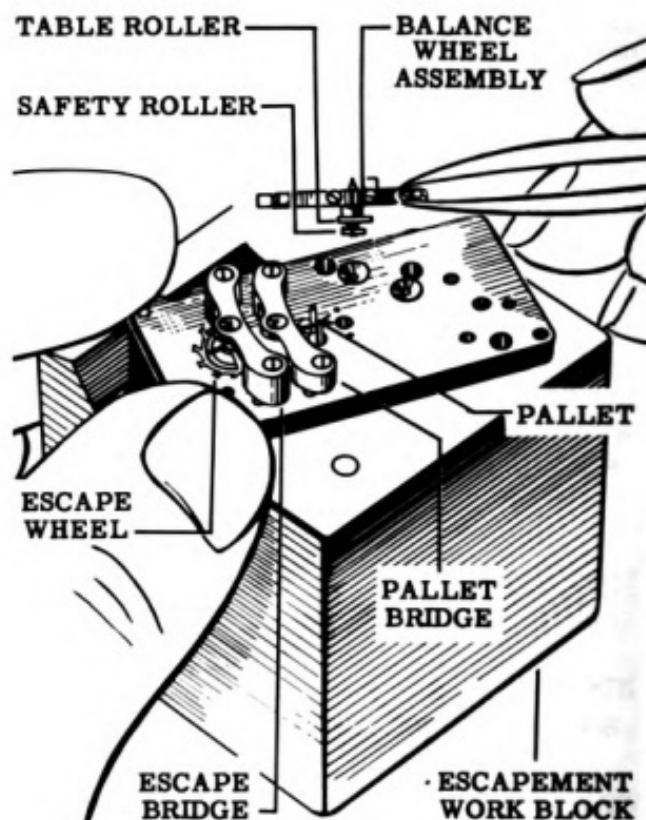

Figure 43
5. Lift out the entire balance wheel assembly as shown in Fig. 43, and put it in the cleaning tray without any further disassembly.